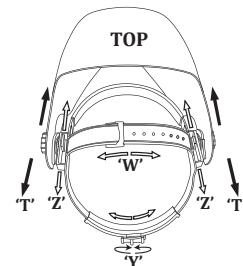

Figure 1
- The overall circumference of the headband can be made larger or smaller by rotating the knob on the back of the headband **Figure 1-Y**. This can be done whilst wearing the helmet and allows just the right tension to be set to keep the helmet firmly on the head without it being too tight.
- If the headband is riding too high or too low on your head, adjust the strap which passes over the top of your head. To do this, release the end of the band by pushing the locking pin out of the hole in the band. Slide the two portions of the band to a greater or lesser width as required and push the locking pin through the nearest hole **Figure 1-W**.
- Undo the block nut **Figure 1-T** to adjust the distance between the helmet and your face in the down position
- Loosen the block nut on either side of the helmet and slide it nearer or further from your face **Figure 1-Z**. It is important that your eyes are each the same distance from the lens. Otherwise the darkening effect may appear uneven.